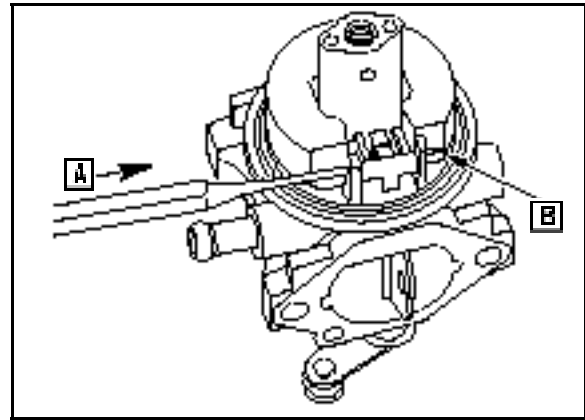

Fig. 73
2. Remove float bowl gasket (A).
3. The float hinge pin is a wedge fit. One end of float hinge pin has two flats ([B] Fig. 73). Tap the opposite end of the pin until loose.